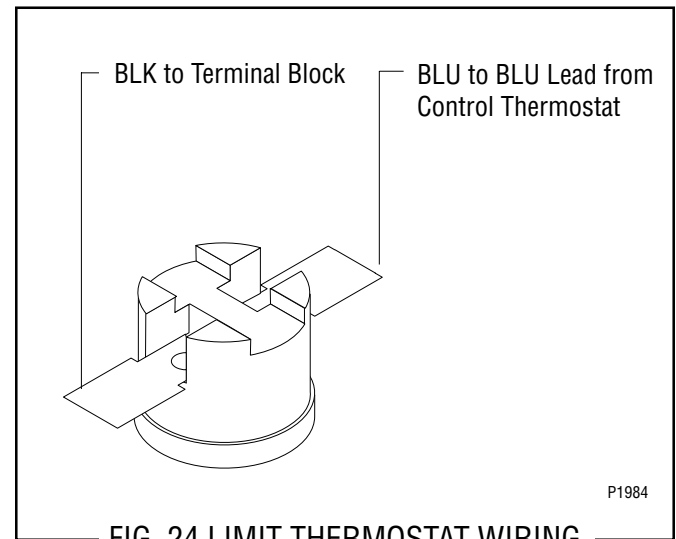

FIG. 24 LIMIT THERMOSTAT WIRING
4. Refer to FIG. 24 when reconnecting the wires.